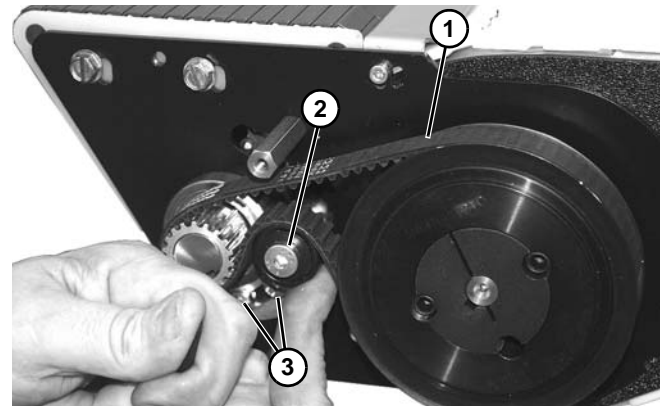

Figure 146
- On idler end, route and install belt (Figure 146, item 1) as shown. Press up on tensioner (Figure 146, item 2) and tighten two socket head screws (Figure 146, item 3).